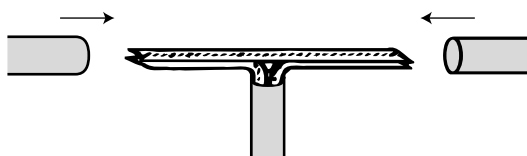

Figure 3.
3. Place a third twist tie across the top of the other two twist ties, and insert the ends into two coffee stirrers (see Figures 3 and 4).